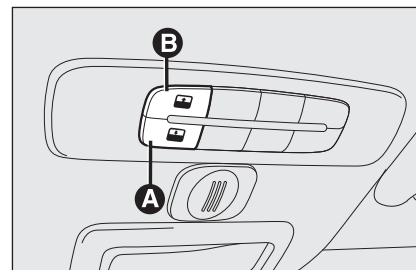
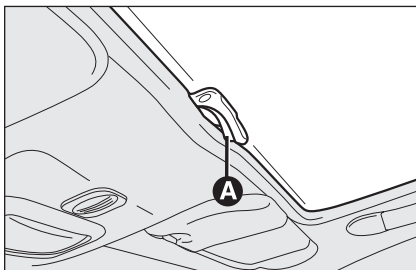

fig. 40
fig. 41
The fixed sunroof with wide glass includes a glass panel provided with manually operated sun visor. The sun visor can be used in the positions “fully closed” and “fully open” (it has no fixed intermediate position). To open the sun visor: press the tooth **A**-fig. 41, release it and move it to “all open position”. To close it, repeat the same operation in the opposite direction.
The openable sunroof with wide glass includes a glass panel provided with manually operated sun visor. The sun visor can be used in the positions “fully closed” and “fully open” (it has no fixed intermediate position). To open the sun visor: press the tooth **A**-fig. 41, release it and move it to “all open position”. To close it, repeat the same operation in the opposite direction. The sunroof can be operated only when the ignition key is on **MAR**. The controls **A-B** fig. 40 on a dedicated dashboard near the front ceiling lights, enable to open/close the sunroof.
Press and keep pressed button **B**-fig. 40, the front pane will set to the “spoiler” position; press button **B**-fig. 40 again for over half a second to make the sunroof sliding automatically to the wide open position; press the button to stop the sunroof at an intermediate position.
When in wide open position, press button **A-fig. 40** for over half a second to set the front pane to the “spoiler” position; press the button again to stop the sunroof at an intermediate position; press button **A-fig. 40** again and keep it pressed to close the sunroof completely.
- press button **A**-fig. 40 at close position;